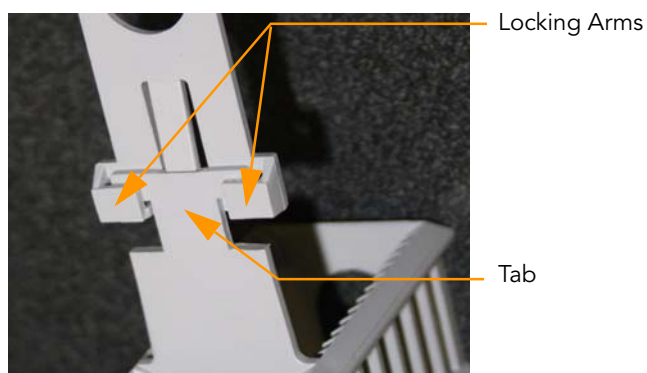

Figure 145 Staining Rack Locking Arms and Tabs
4. Submerge the unloaded staining rack into the wash dish with the locking arms and tab **facing towards** you (Figure 145). This orients the staining rack so that you can safely remove the BeadChips.